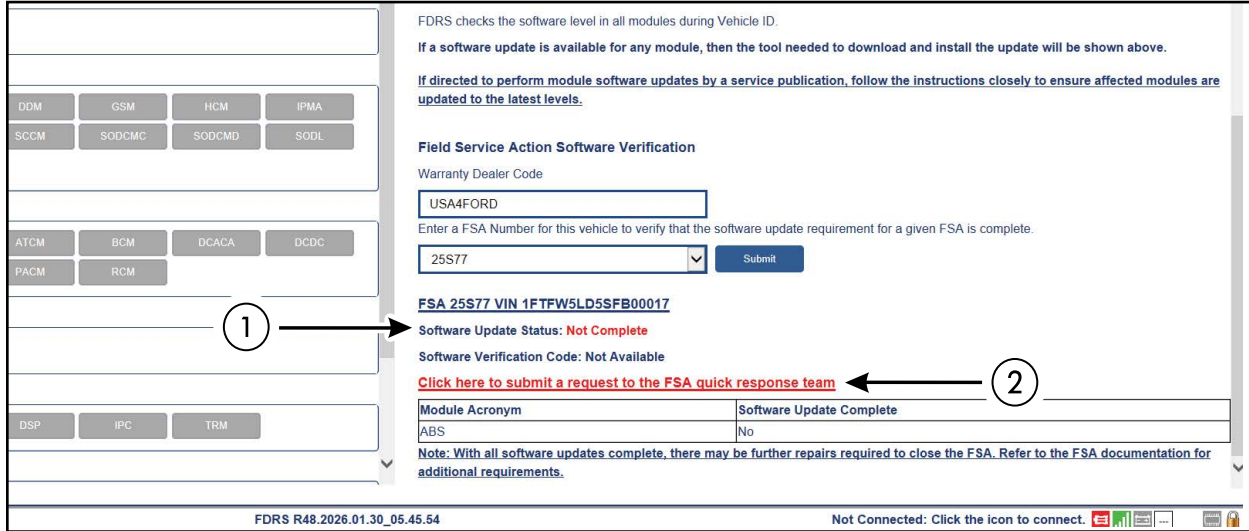

FIGURE 16
43. If the FDRS Field Service Action Software Verification Status displays "**An error occurred. Unable to retrieve FSA information**", please reattempt to generate an SVC code. The error can be caused by a connectivity or server issue where the status of the FSA cannot be verified. This is typically resolved upon reattempting to generate an SVC code. See Figure 16.